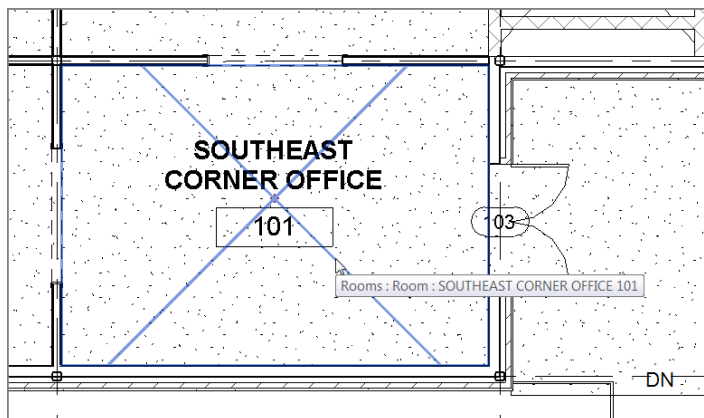

FIGURE 15.6: Hover the cursor over the room until the X appears.
2. Hover your cursor over the room until you see the X, as shown in Figure 15.6.